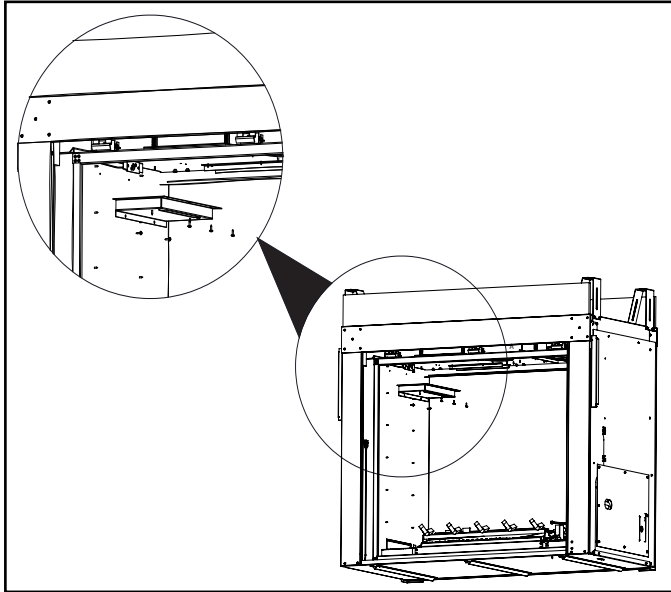

Figure 10.7 Light Box Removal
3. The light bulbs are included in the Homeowner's Manual packet. Install the light bulbs into bulb sockets as shown in Figure 10.7. **CAUTION:** Finger prints or the transfer of oil from hands will reduce the lifespan of the bulbs. It is advisable to handle the light bulbs with a clean cloth.